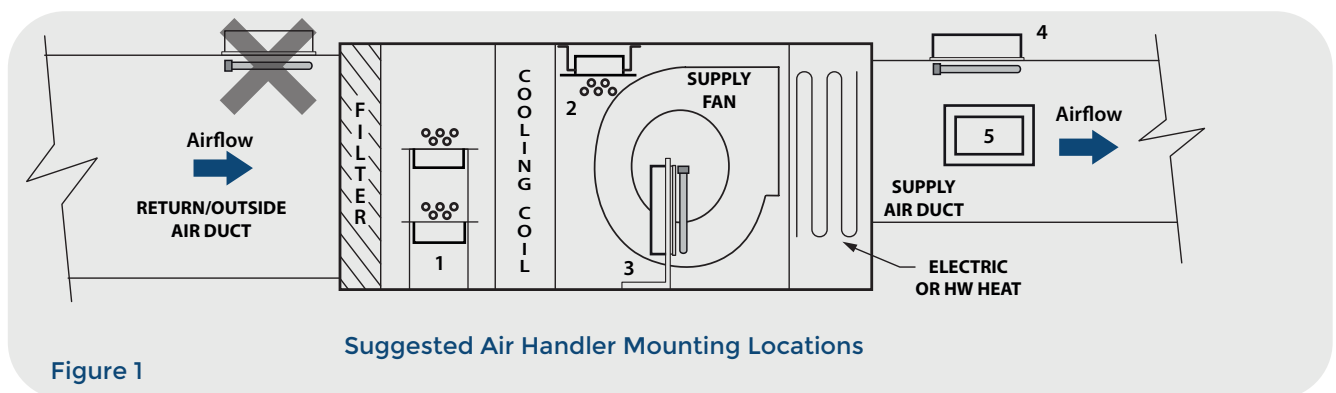

Figure 1
Step 3. The units can either be installed inside an air handling unit or in the supply air duct. See Figure 1 for acceptable mounting locations.
- a. To mount the ionizer inside an air handling unit, use "L" or "Z" shaped brackets that are secured to the walls, floor or ceiling of the AHU. A mounting rack can be used for multiple ionizers. See Figure 1.